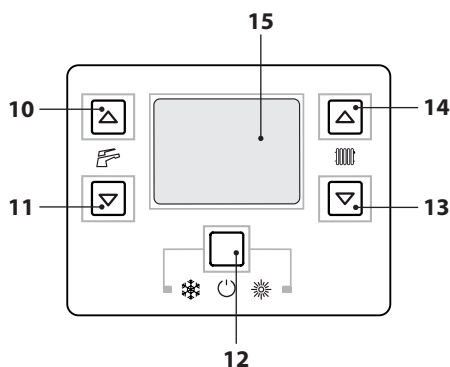
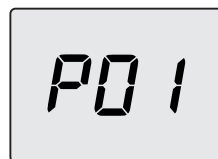
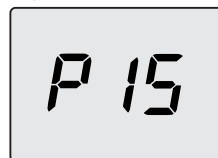

Figure 5.29
Figure 5.30
Figure 5.31
- Enter "programming mode" by pressing keys 12-13-14 together for 10 seconds (Figure 5.29) until the LCD display indicates the letters **P01**, alternating with the value of the parameter, indicating entry in "parameter 01" (Figure 5.30).
- Scroll the various parameters using keys 13 or 14 until the LCD display indicates the letters **P15** and the value of the parameter, indicating entry in "parameter 15" (Figure 5.31).
- By pressing key 12 (Figure 5.29) confirmation of the inserted value is obtained.
- By pressing keys 12 and 13 together (Figure 5.29) you will exit without changing the value (return to the parameter list Figure 5.31).
- Press keys 12-13-14 together for 10 seconds (Figure 5.29) to exit "programming mode".
If the ambient temperature is not comfortable, you can increase or decrease the heating system delivery temperature by  $\pm 15^{\circ}\text{C}$  with the keys 13 (decrease) and 14 (increase) (Figure 5.29).